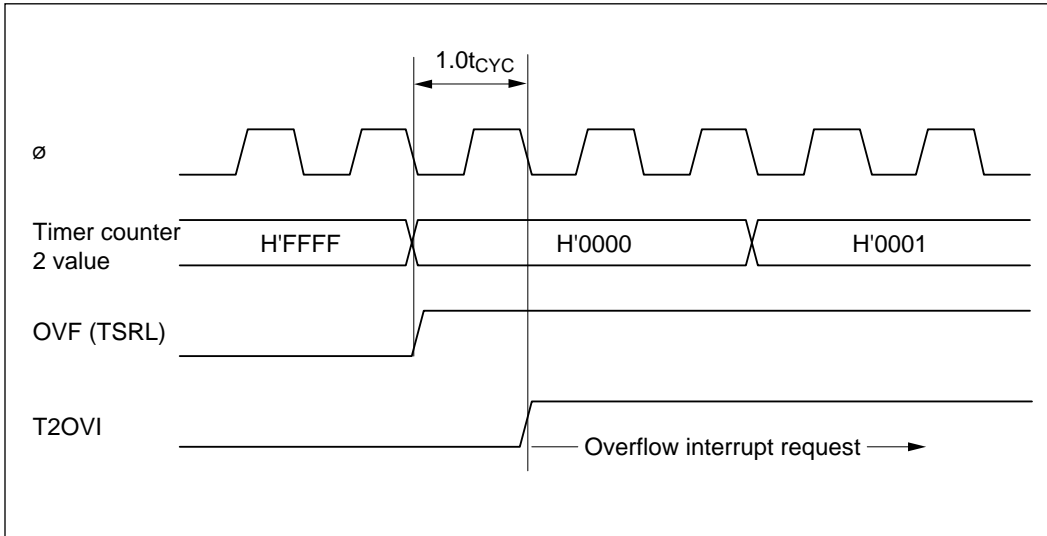

Figure 11-48 Timing from Counter Incrementation to Overflow Interrupt Request
(3) Overflow Timing: Figure 11-48 shows the timing from counter incrementation to generation of an overflow interrupt request. When the value of timer counter 2 returns from H'FFFF to H'0000 the IPU sets the overflow flag (OVF). The interrupt request (T2OVI) is generated $1.0t_{CYC}$ after OVF is set.